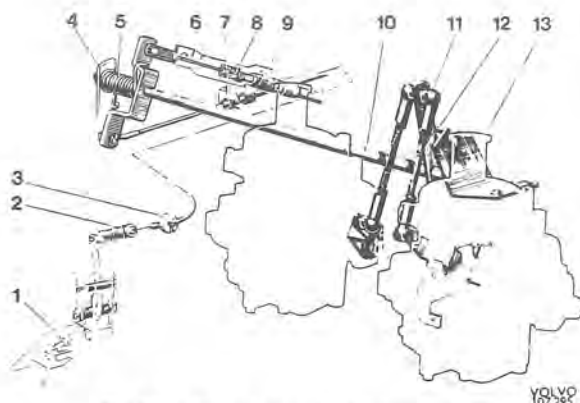

Fig. 2-78. Throttle control, l-h steered vehicle
8. Check that the cable (Fig. 2-78) is well stretched and if necessary adjust on the cable sleeve adjuster (9).